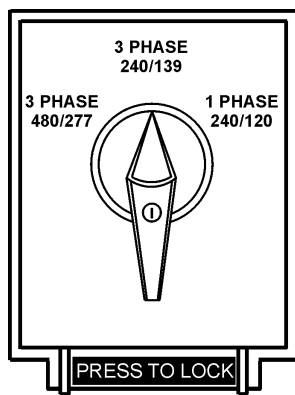

Figure 13. Voltage Selector Switch
A wide range of voltages are available to supply voltage for many different applications. Voltages are selected by using the **voltage selector** switch Figure 13. To obtain some of the voltages as listed in Table 7 (see below) will require a fine adjustment using the **voltage regulator (VR) control knob** located on the control panel.
The voltage selector switch Figure 13 is located above the output terminal panel's Hard Wire Hook-up Panel. It has been provided for ease of voltage selection..